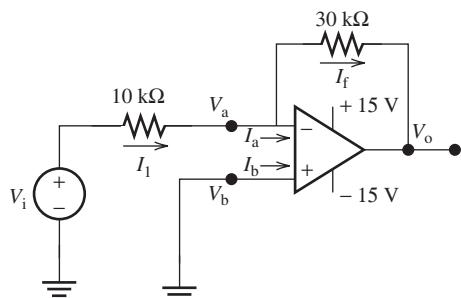

FIGURE P8.69 Circuit for Problem 8.69.
8.69 (B) Using the circuit shown in Figure P8.69, find the following: